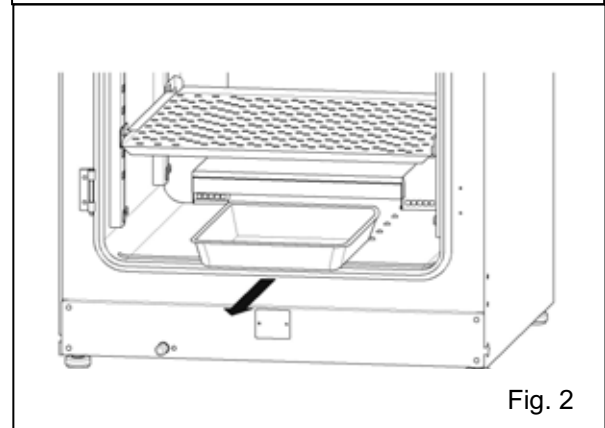

Fig. 2
3. Lift the front of the tray supports and pull them out. (See Fig. 2.)
2. Pull the humidifying pan forward. (See Fig. 2.)
5. Set the humidifying pan cover, humidifying pan, and fan cover as shown in Fig. 2, and close the inner door and outer door (Fig. 2).